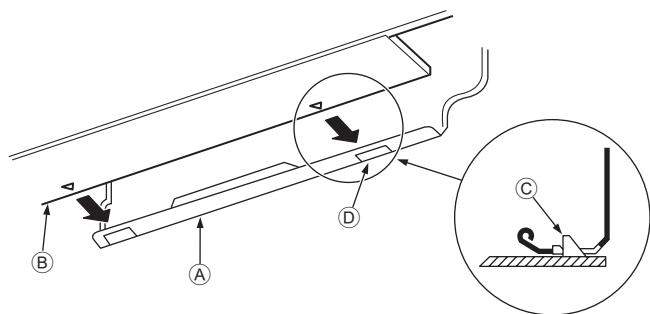

Fig. 3-15
3. While inserting the refrigerant piping and drain hose into the wall penetration hole (penetration sleeve), hang the top of the indoor unit to the mount board ①.
5. Fasten by pushing the bottom part of the indoor unit onto the mount board ①. (Fig. 3-15)
* Check that the knobs on the bottom of the indoor unit are securely hooked into the mount board ①.
- ① Mount board
- ② Indoor unit
- ③ Hook
- ④ square hole